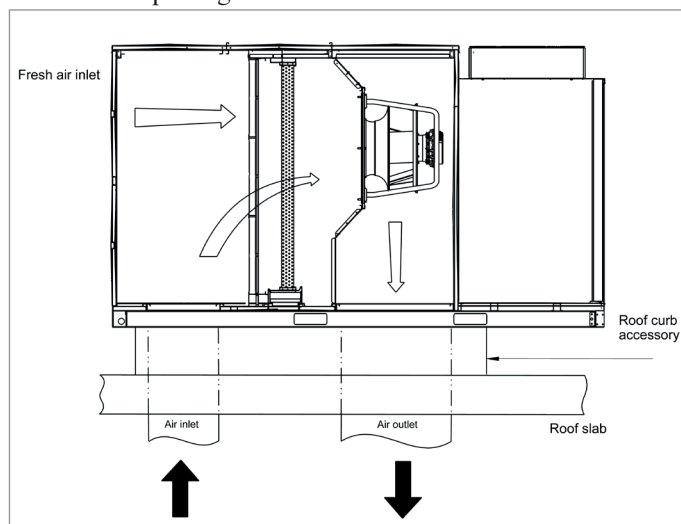

Fig. 1 – Roofcurb accessory – standard vertical supply and return
- The standard unit leaves the factory with the air supply and return in the lower section (see Fig. 1) and the corresponding holes on the roof must be made.